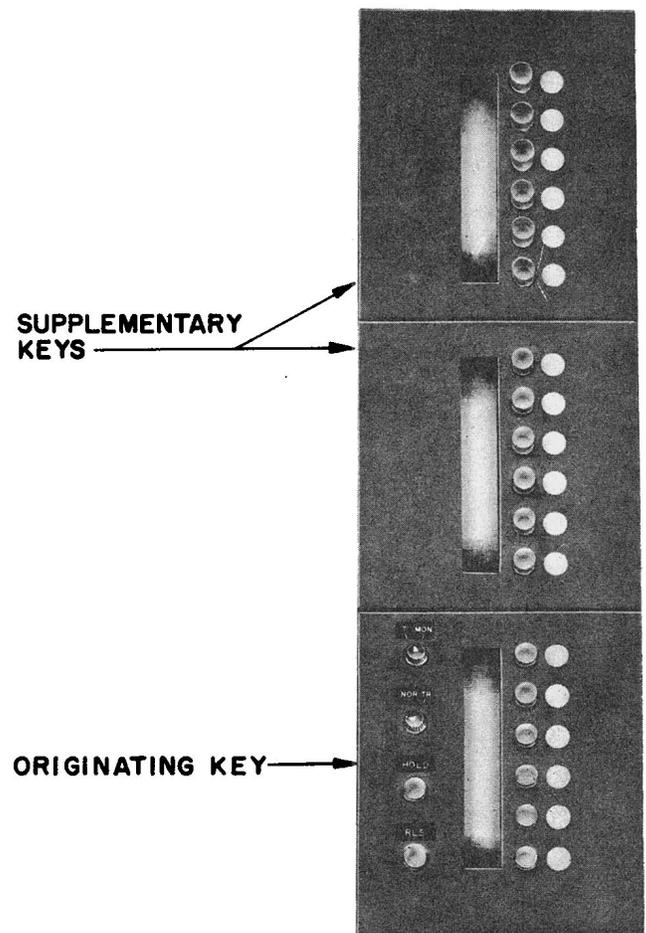
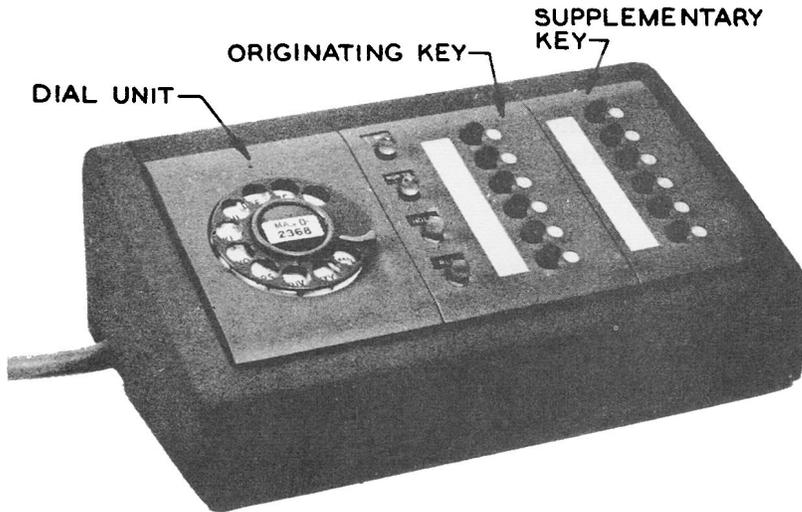

Fig. 1 – End-to-end Assembly, Flush Mounted
Fig. 2 — Side-by-side Assembly, Surface Mounted
2.03 Assemblies may be flush mounted either end to end or side by side in customer-owned consoles and tables (Fig. 1). They may be surface mounted side by side in apparatus cases (Fig. 2).